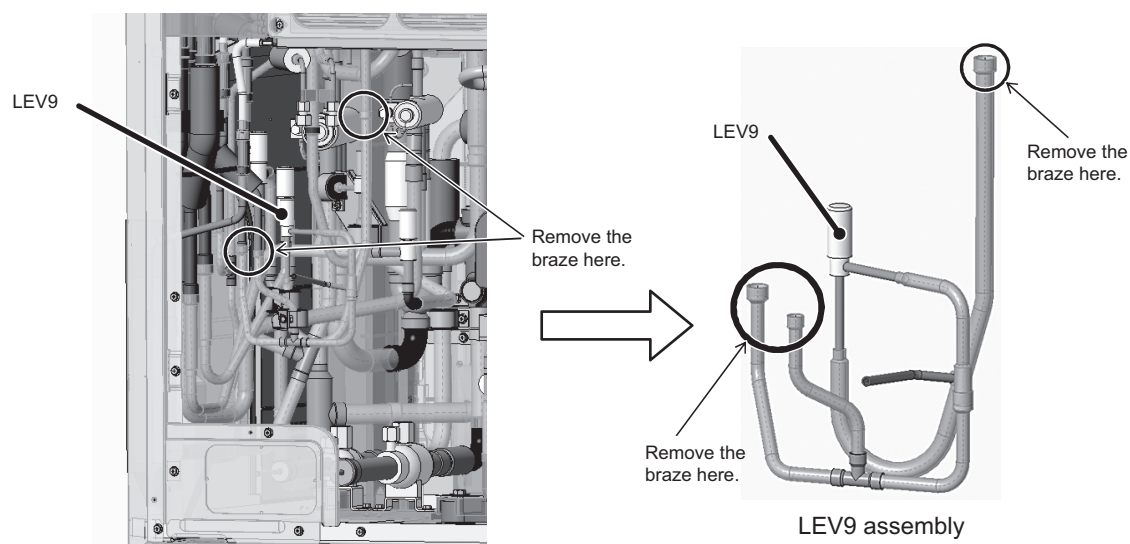

Figure 7
- (7) Remove the braze at the three areas circled in the figure to remove LEV9 assembly. (See Figure 7.)